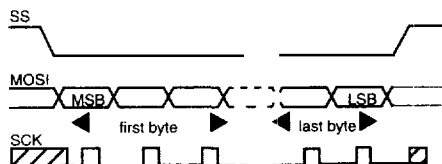

Figure 3. SPI Protocol
Basically, the transmission format is very similar with that for display RAM or control registers. The major difference is to replace the row and column address with segment address and line address respectively. There are also three transmission formats, from (a) to (c) as stated below. The data train in each sequence consists of segment address (S), line address (L), and font informations (I), as shown in Figure 3. In format (a), each font information data have to be preceded with the corresponding segment address and line address. This format is particular suitable for updating small portion of font pattern. However, if the current information byte has the same segment address as the one before, format (b) is recommended. For a new font pattern change which requires massive information update or during power up situation, most of the segment and column address on either (a) or (b) format will appear to be redundant. A more efficient data transmission format (c) should be applied. It sends the character RAM starting segment and line addresses once only, and then treat all subsequent data as font information. The segment and line addresses will be automatically incremented internally for each RAM font data from the starting location.